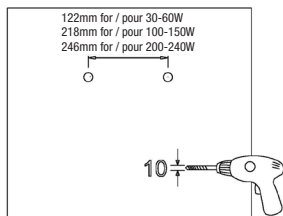

Figure 33
Step 1: Drill holes on the wall as shown Figure 33.